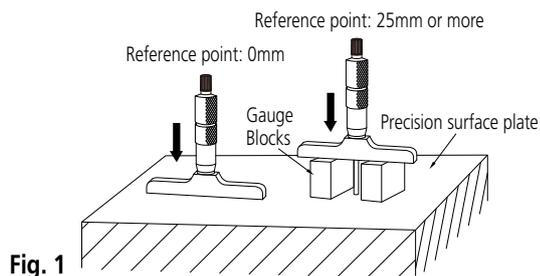

Fig. 1
4. Slowly contact the measuring surfaces while pressing the reference surface against a flatness-assured surface such as precision surface plate. Then rotate the ratchet stop (1.5 to 2 turns) to apply a measuring force 3 to 5 times to check the reference point. If the reference point is over 25mm, use gauge blocks to check the setting. (**Fig. 1**) If the reference point is off, align the zero point by rotating the sleeve.